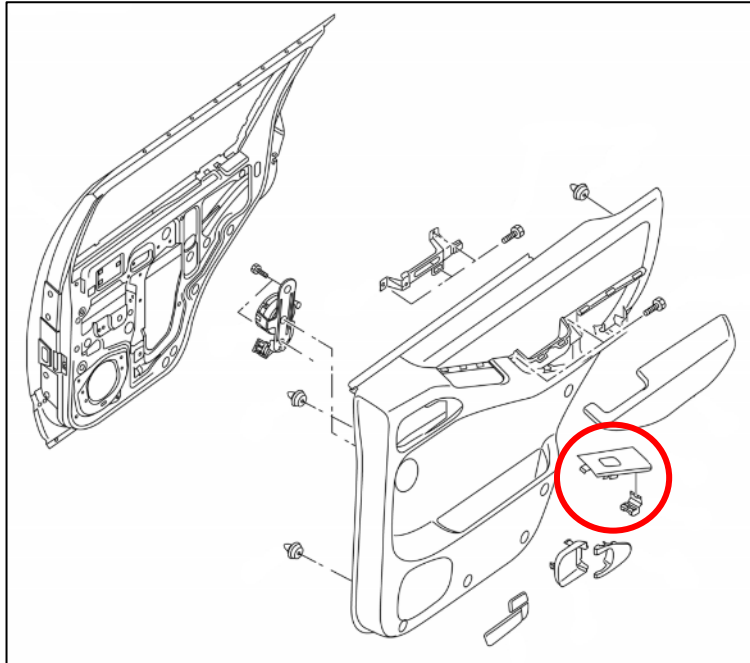

Figure 84
4. Pry up the Door Control Panel with a Trim Removal tool. *Figure 84.*